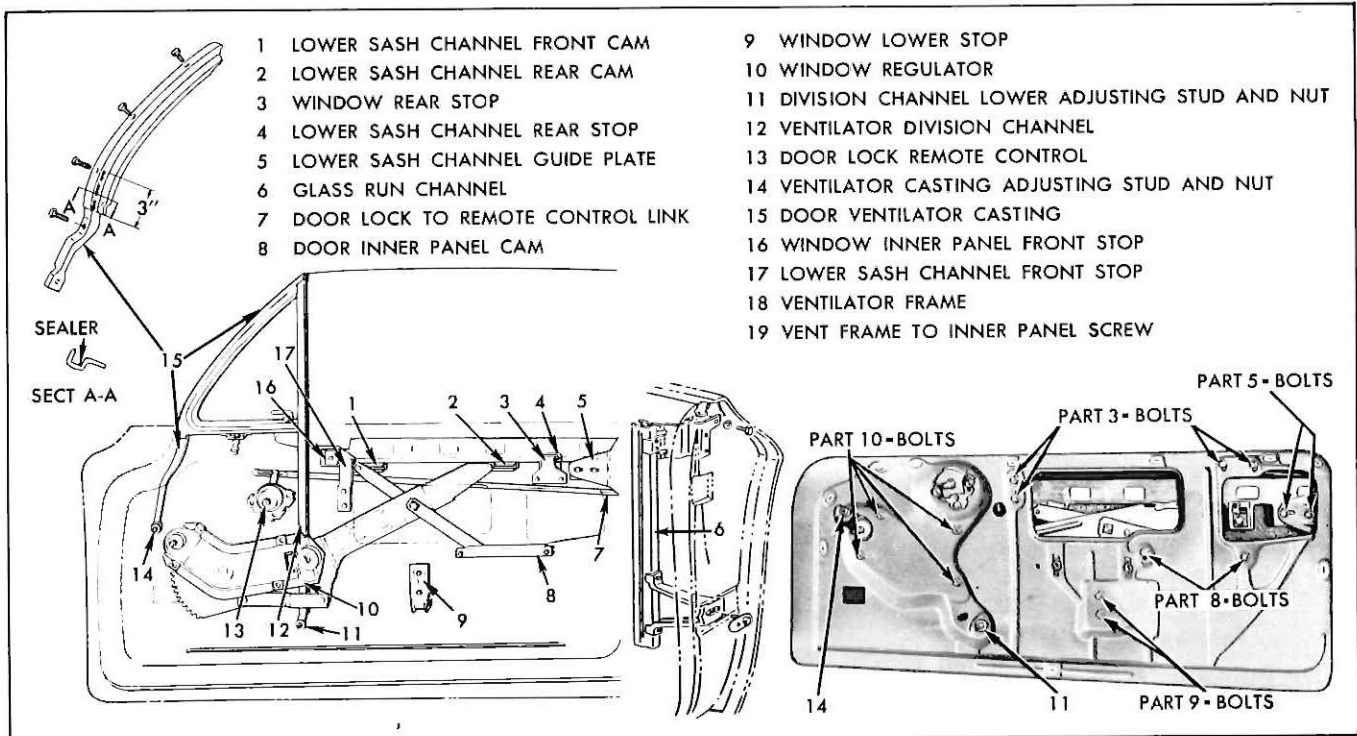

Fig. 1—Corvair Convertible Door Hardware
A phantom view of a Corvaire Convertible door, with hardware installed, is shown in Figure 1. The illustration also identifies the door hardware attachments and locates the various adjusting points.
4. To install, reverse removal procedure. Prior to installation, apply a ribbon of medium bodied sealer to vent casting as indicated in Section "A-A" of Figure 1.
1. Remove vent division channel adjusting stud (fig. 1).
4. Remove door window lower sash channel guide plate (fig. 1).
sembly is available at the front and rear up-stops located on inner panel (fig. 1).
5. Some in and out adjustment (at rear of glass) is available at the lower attaching bolt of the rear run channel (fig. 1).
panel access hole (fig. 1). To install, reverse removal.